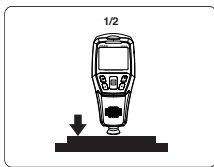

Figure 3
1. When Figure 3 appears on the screen, place a standard coating thickness film with known thickness (e.g.: 500µm) on top of an uncoated substrate.